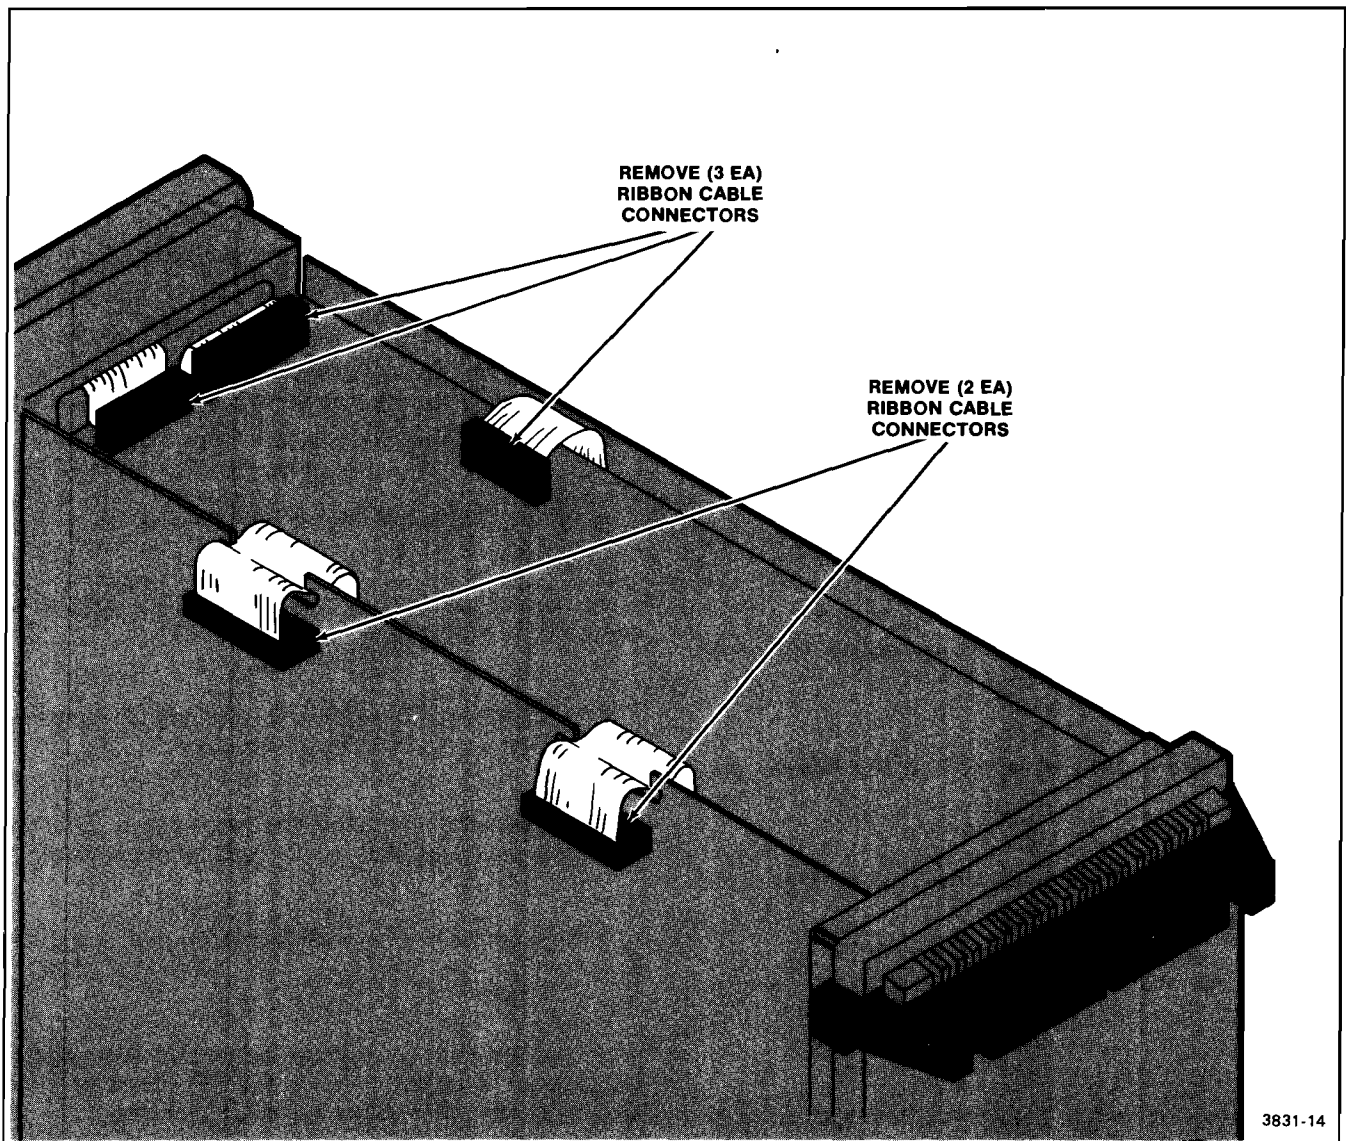

Figure 6-2. Ribbon cable removal.
3. Disconnect the two ribbon-cable and one flex-circuit connectors (P251, P651, and P652) from the Control board (see Figure 6-2).